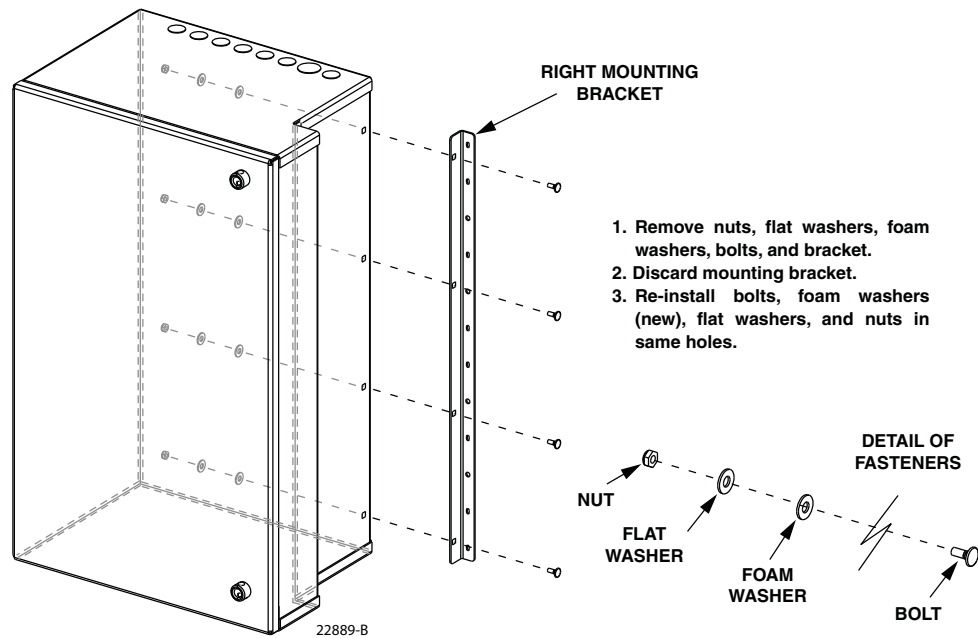

Figure 5. Remove Right Mounting Bracket From Rear Mounting Position
7. Remove the nuts, flat washers, foam washers, and carriage bolts (four of each) that secure the **right** mounting bracket to the **right-rear** side of the cabinet as shown in Figure 5.